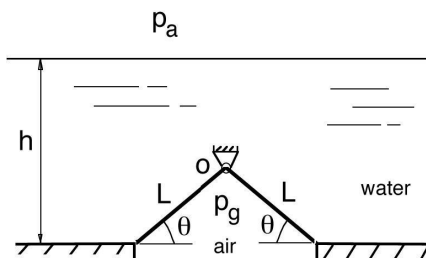

Figure P2.53
2.53 A symmetrical trapdoor with doors of width w and length L is located on the bottom of a tank that is filled with water of density ρ to a depth h , as shown in Figure P2.53. The doors are hinged without friction at the point O , and they have a negligible mass. Find the value of p_g at which the doors are about to open, where p_g is the gauge pressure on the air side of the trapdoors.